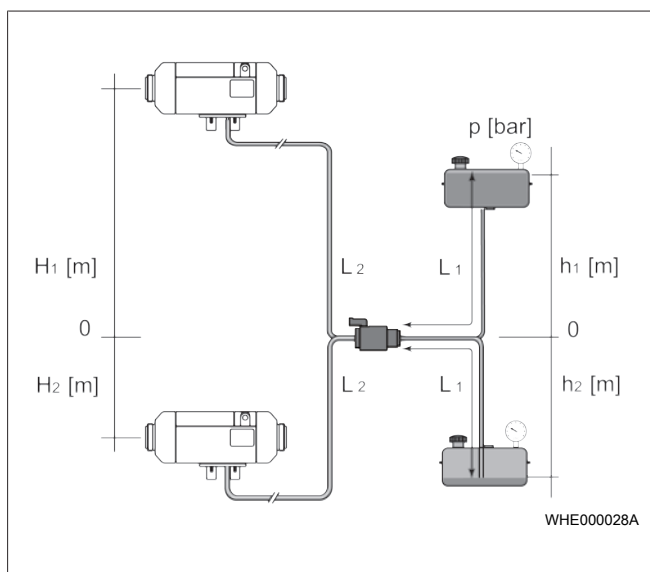

Fig. 8 Permissible pressure at the fuel take-off point
- ✓ The pressure at the fuel take-off point is in the permissible range (see Fig. 8 and tables).